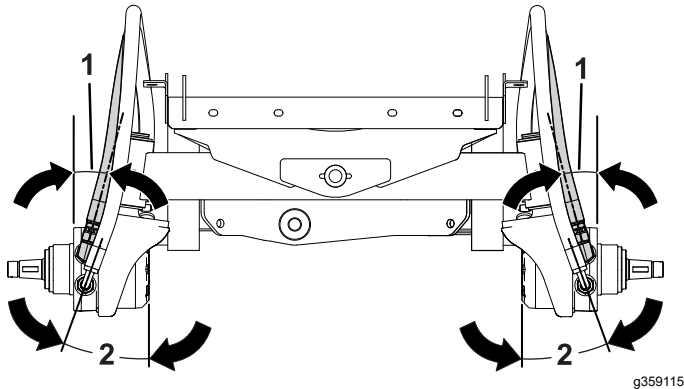

Figure 12
4. Adjust the 90° elbow fitting to a 15° angle as shown in Figure 12.
8. Adjust the 90° hose elbow to a 20° angle as shown in Figure 12.
Note: Ensure the angles are maintained as shown in Figure 12.